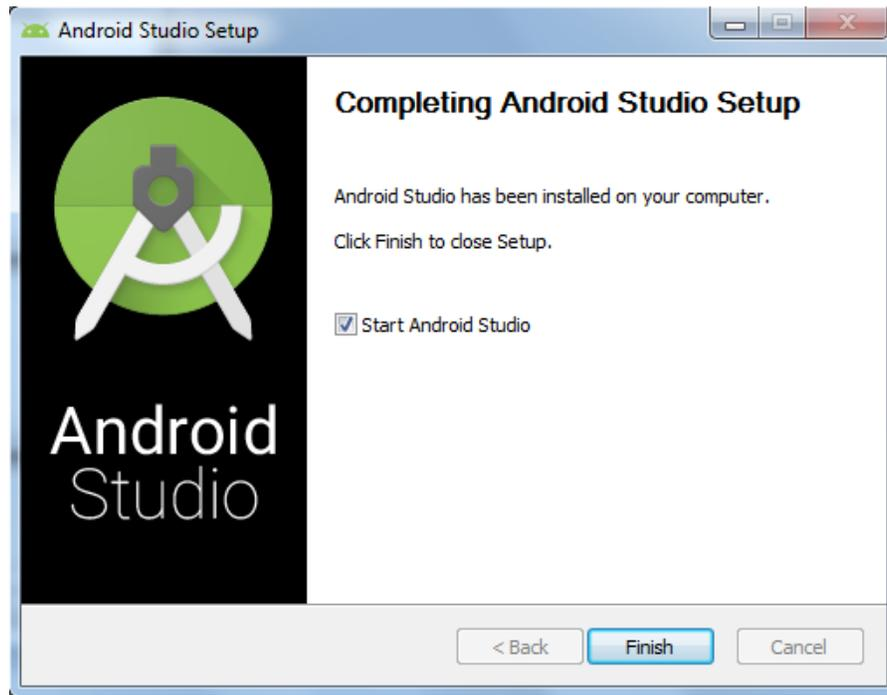

Figure 45, Android Studio Installation Completion Screen.
- h. On the "Android Studio Setup" screen, check the "Start Android Studio" box (Figure 45). Click Finish.